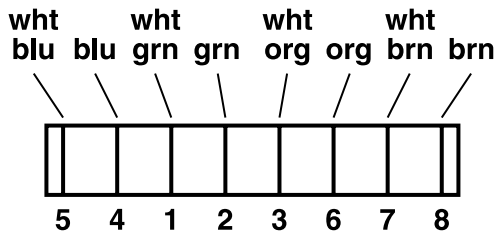

Figure 3-1. T568A wire colors.
3. Separate the pairs according to color (white-blue/blue, white-green/green, white-orange/orange, and white-brown/brown). See Figure 3-1.